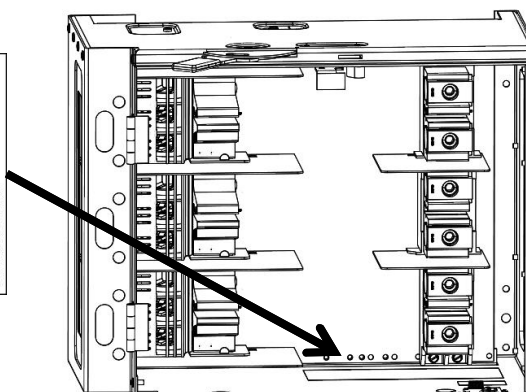

Figure 16
16. Locate load base position using load base fuse label on inside of enclosure see Fig. 16.